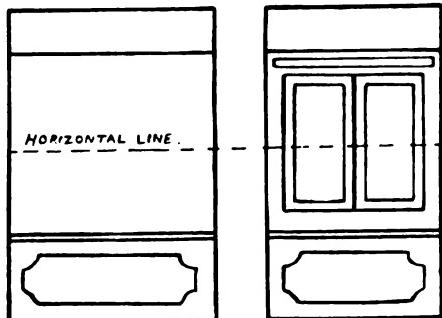
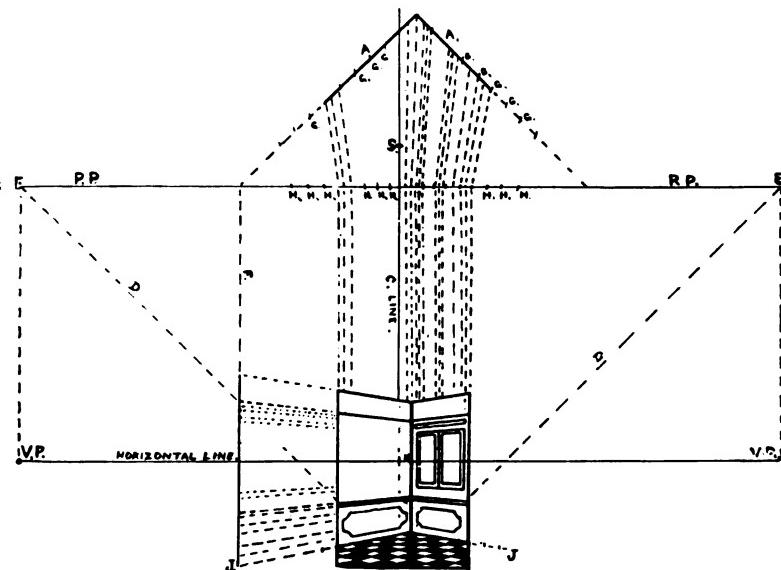

FIG. 2
FIG. 3
The vanishing points for drawing a picture in perspective are obtained from the visual angle, and are placed in their proper position on the line of sight or "horizontal line," *F*, the details of which we may easily learn from the following object-lesson. Let us suppose we have an enlargement with a white or block-out background on which we wish to draw an interior, say, the corner of a room, with a window on one side, the "elevation" of each wall singly being as shown in Fig. 2, the height of the walls to be represented as nine feet, and that of the windows four feet and
The walls being at right angles to each other, we draw a right angle on the upper part of a piece of paper (Fig. 3, *AA*), the sides of which equal in length those of the elevation (Fig. 2).
Next we take a strip of paper and mark off the distances of the horizontal ends of the panels, cornice, and windows, by putting it against the elevation (Fig. 2) and transferring it to *AA*, Fig. 3. We now determine the position of the "sitter," say, two feet forward from the outermost extremity of right angle *AA*, and nearly one foot to the left of the corner where the walls meet. Next draw a vertical line (*C*) through *S*, and, determining the eye of the observer to be, say, twenty feet from the sitter (*S*) continue it downward to that point, *O*, according to the scale on which we are working.
right angles to *P. P.*. Now take a strip of paper, and from the elevation (Fig. 2) obtain the heights of the frieze, panels, windows, horizontal line, etc., and transfer them to the *F* line, taking care that the horizontal point is placed where the horizontal line in Fig. 3 bisects *F*. We can now draw the horizontal lines of the background by placing one end of the straight-edge against these "height" marks and the other against the *V. P.*'s. Draw the left-hand side first, and commence and end the lines according to their places as shown by the vertical dotted lines. In drawing the right-
*picture-plane line* the horizontal distances of the panels, cornice, and windows. Note that they converge together, being the dotted lines in Fig. 3 from *AA* to *P. P.* When each line touches the *P. P.* line, drop it perpendicularly to about *O*. (In the figure, for the sake of clearness, they are not taken so far. These vertical dotted lines give us the correct dimensions for the horizontal lines of our drawing.